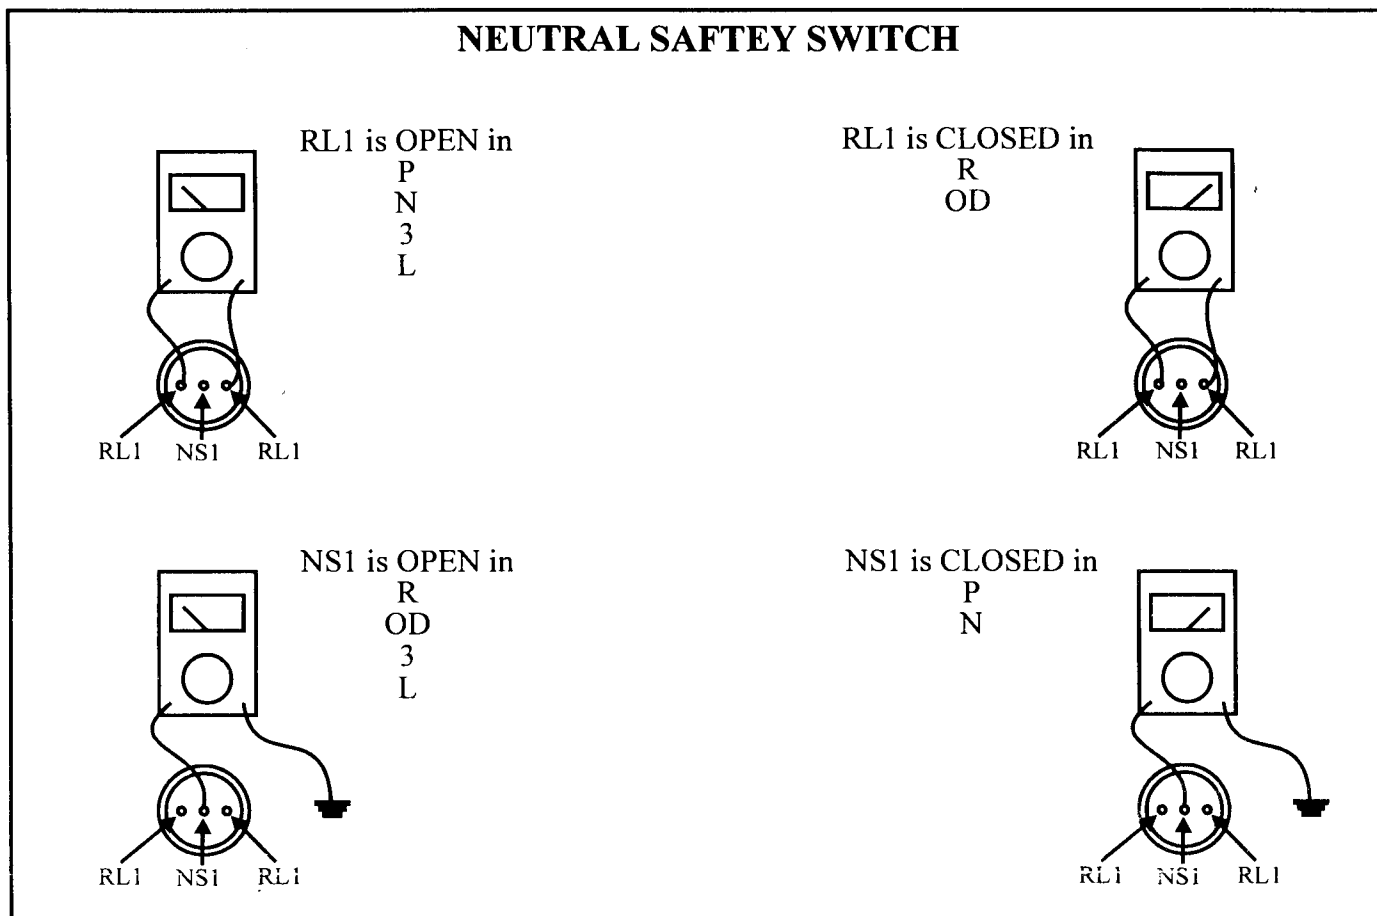
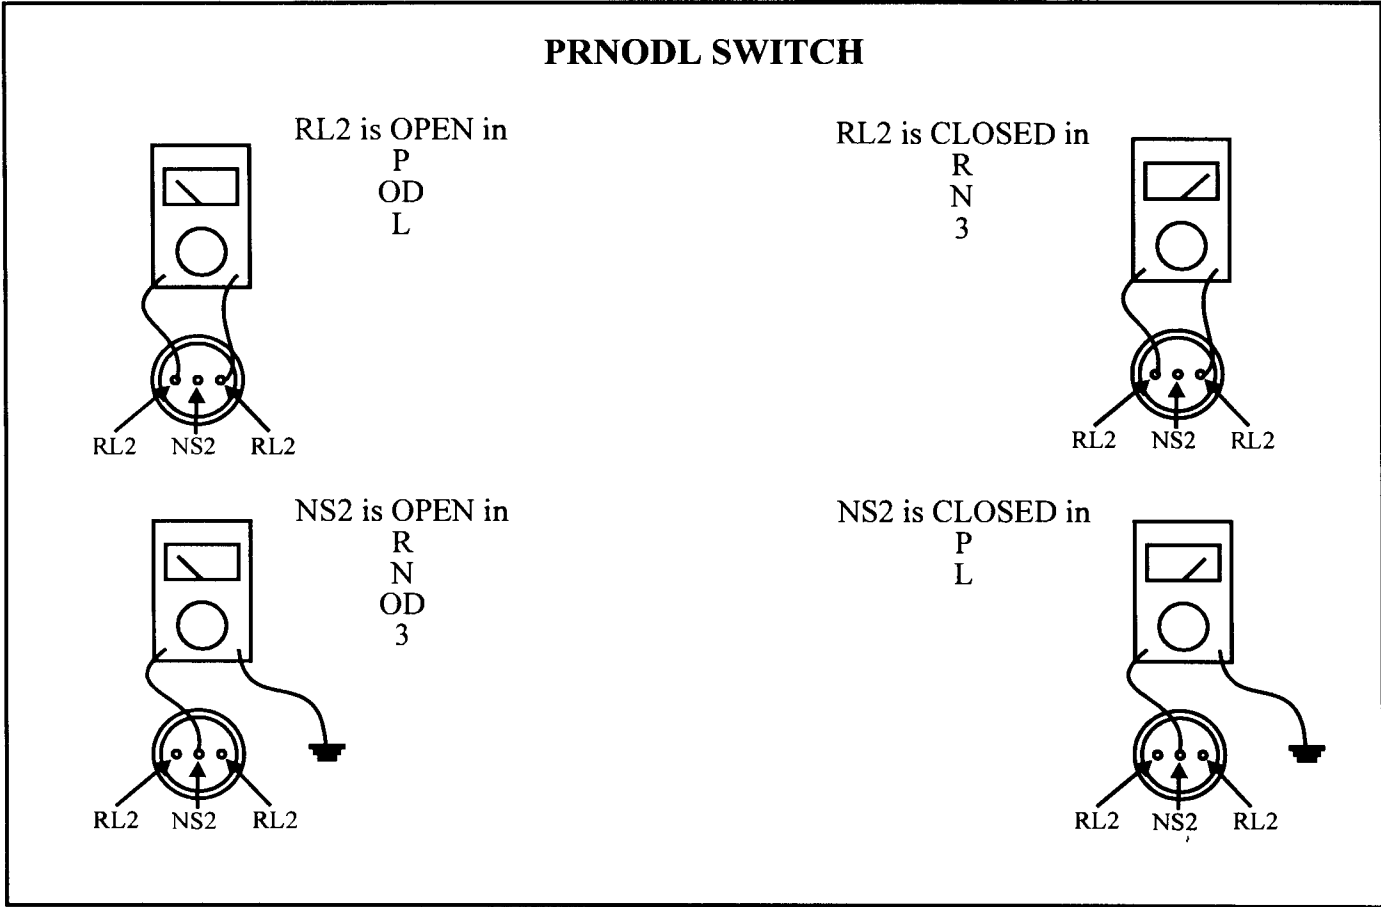

Figure 36
Figure 37
- Once the circuit which malfunctioned has been identified, a check needs to be made on that specific circuit. The first step is to check the PRONDL & Neutral switch operation with the use of a ohm meter. This will check the integrity of the switch as well as the plastic cam located on the manual valve detent assembly. Use Figure 36 to check the specific circuit in question for the Neutral Safety switch or Figure 37 for the PRNODL switch.